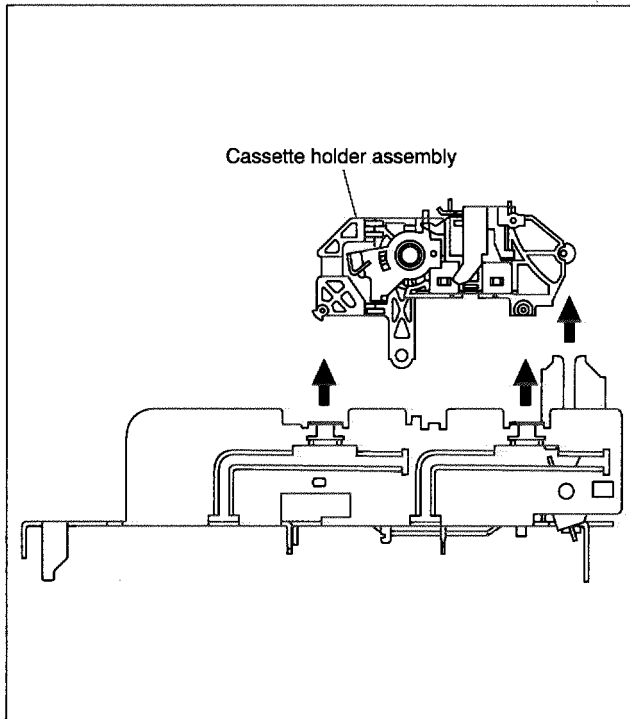
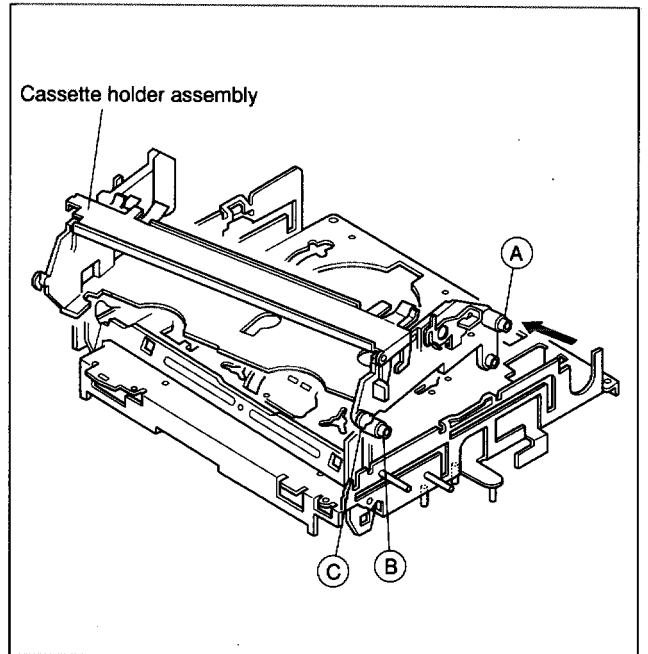

Fig. 2-2-5
Fig. 2-2-6
(5) While holding the left side of the cassette holder, lift the cassette holder assembly so that the three legs on the left side are all released. Then pull the legs (A) and (B) on the right side out of the rail and also pull up the leg (C). (See Fig.2-2-5 and Fig.2-2-6.)